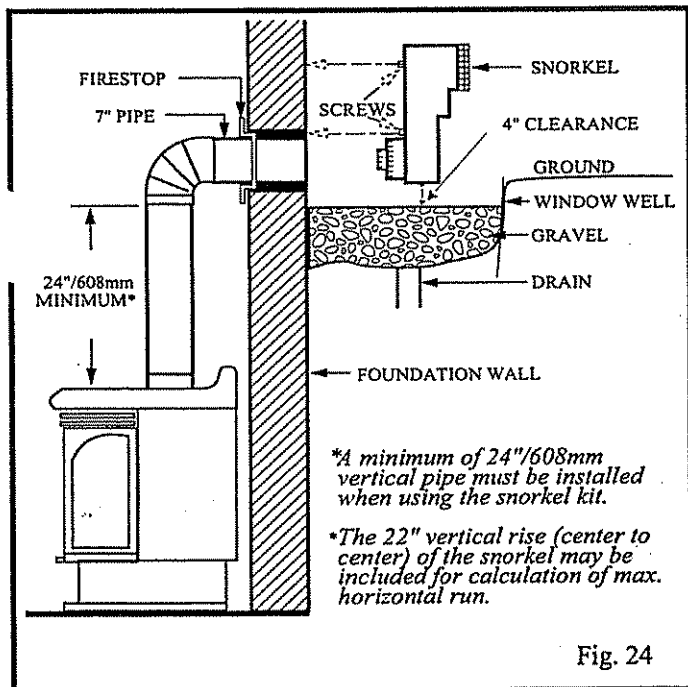

Fig. 24
2. Remove soil to a depth of approximately 16" below base of snorkel. Install drain pipe. Install window well (not supplied). Refill hole with 12" of coarse gravel leaving a clearance of approximately 4" below snorkel. (Fig. 24)
7. Level the soil so as to maintain a 4" clearance below snorkel. (Fig. 24)